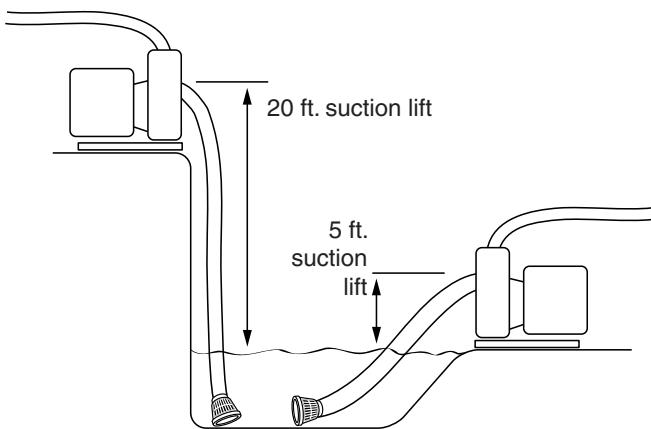

Figure 1
1. Place pump as close to the liquid being pumped as possible. A pump with a 20 foot suction lift will not pump water as quickly as a pump with a 5 foot suction lift (Figure 1).